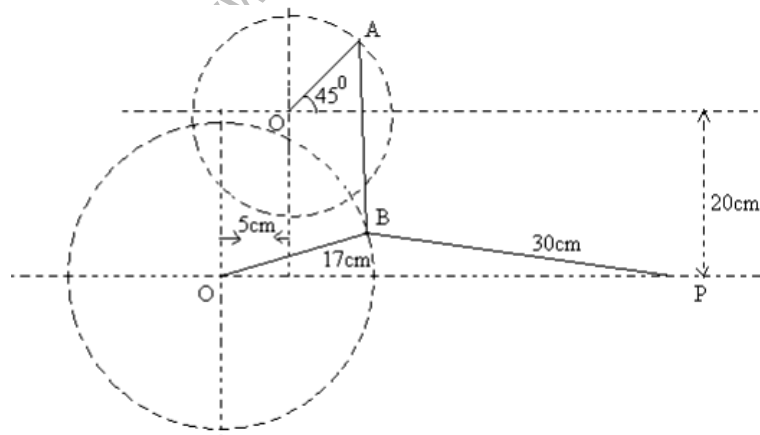

Figure 5
4. For the configuration of the mechanism shown in below Figure 5, Determine the velocity and acceleration of P and the angular velocity and angular acceleration of BP when OA is rotating at 180rpm with an angular acceleration of 50radian/sec². P is constrained to move in horizontal direction [16]